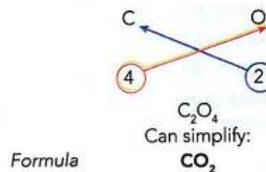

Figure 4.4: A method for finding the formula of carbon dioxide.
- Write the valencies of the elements beneath their symbols (Figure 4.4).